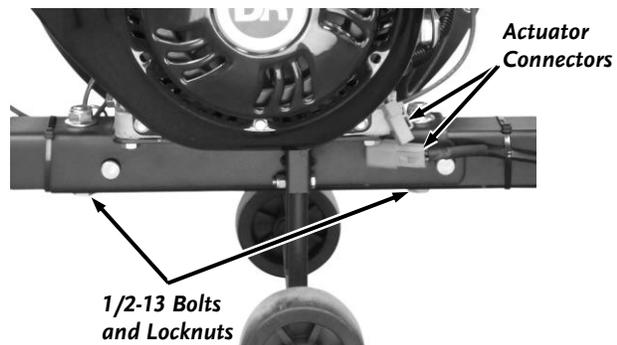

Figure 15
6. Place the two 1/2-13 X 2.75" Bolts (from underneath) up through the two vertical Holes and secure with 1/2-13 Locknuts using two 3/4" Wrenches (**Figure 15**).
7. Plug in the Actuator Connectors (**Figure 15**).